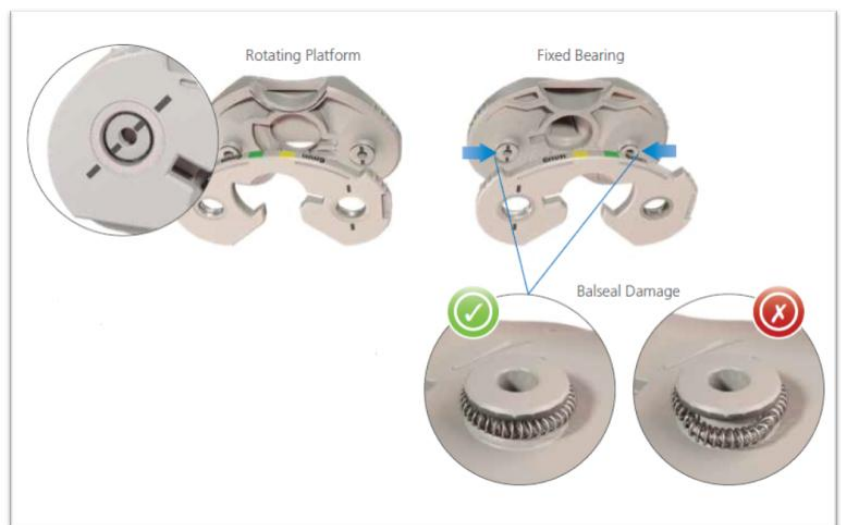

Figure 2: Image is From the ATTUNE® INTUITION™ Instruments Surgical Technique and Provides a Visual Comparison Between Undamaged and Damaged Balseals
- a. “Check for Balseal damage. If damage is observed, replace the damaged instrument.” See Figure 2.